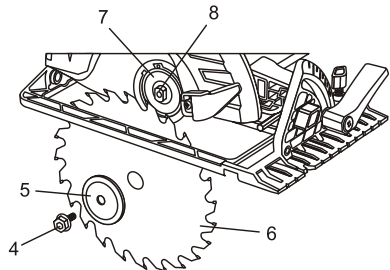

Fig. 3
5. Insert the 6 MM blade hex key into the blade screw (4) (Fig. 3).
7. Carefully remove the blade screw, outer blade flange (5) and the blade (6).